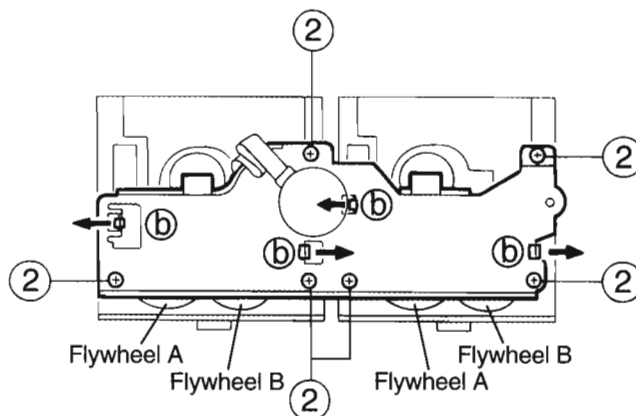

Fig.5
■ Capstan motor removal(See Fig.5~7)
3. Remove the 6 screws ② holding the bracket.
5. Put the cutting on the flywheel A together the bracket's pall as shown in fig.5(Flywheel A)and check that the flywheel B is removed from the bracket's pall(fig.5,6 Flywheel B).
■ Flywheel removal(See Fig.5~7)
3. Remove the 6 screws ② and the bracket.